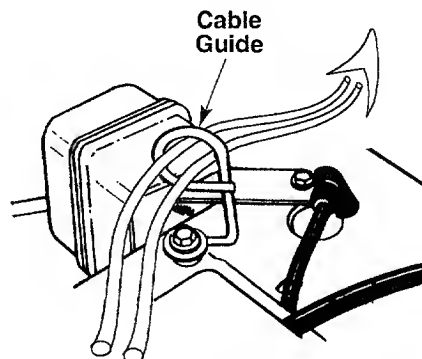

FIGURE 10
- Slip the cables that run from the handle panel to the chute into the cable guide located on top of the engine. See figure 10.